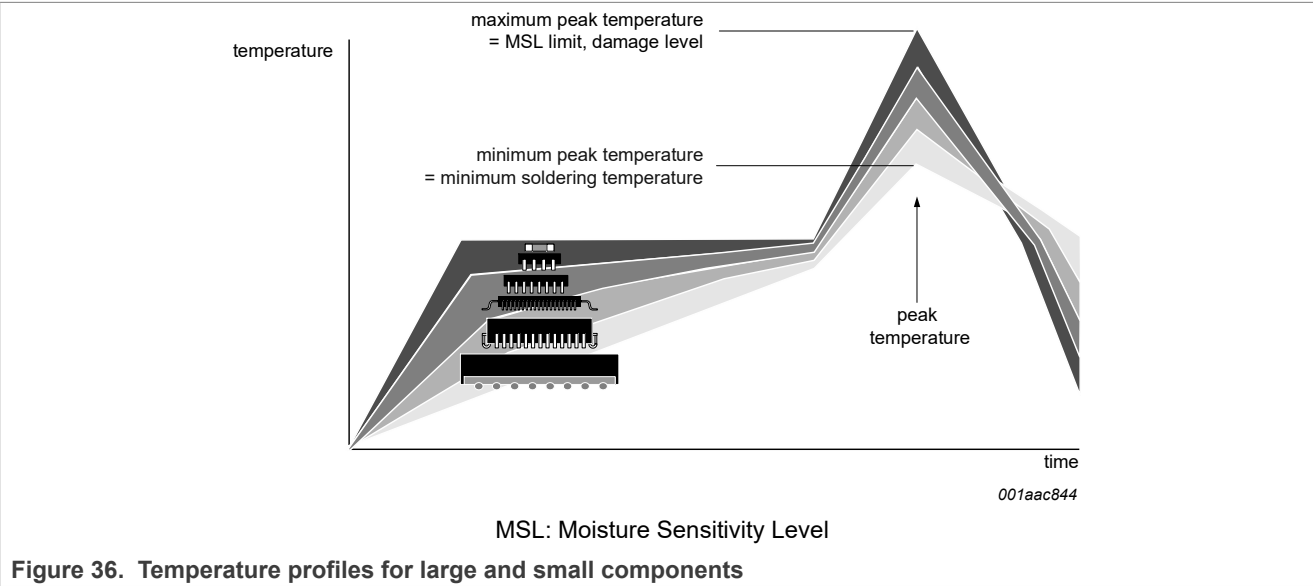

Figure 36. Temperature profiles for large and small components
- Lead-free versus SnPb soldering; note that a lead-free reflow process usually leads to higher minimum peak temperatures (see Figure 36) than a SnPb process, thus reducing the process window
Moisture sensitivity precautions, as indicated on the packing, must be respected at all times. Studies have shown that small packages reach higher temperatures during reflow soldering, see Figure 36.